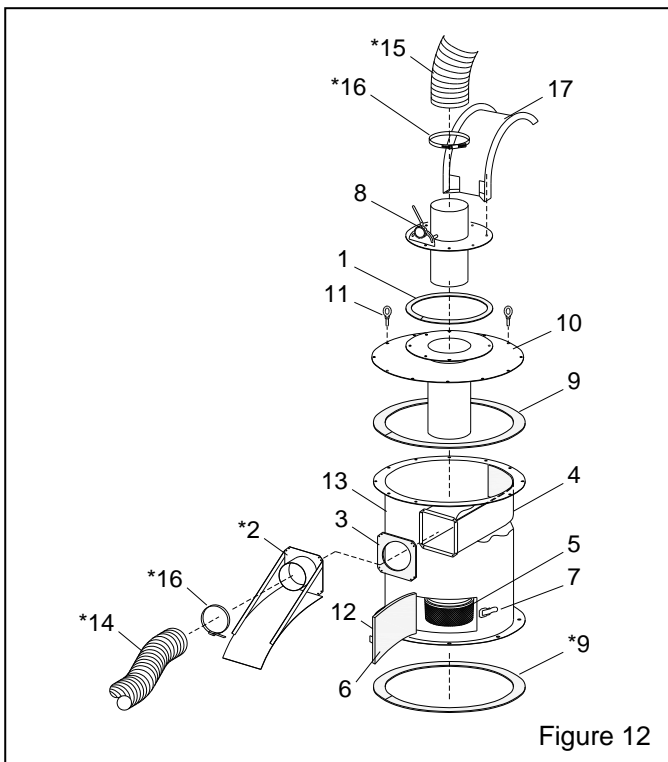

Figure 12
14.2 Reclaimer Assembly, Figure 12